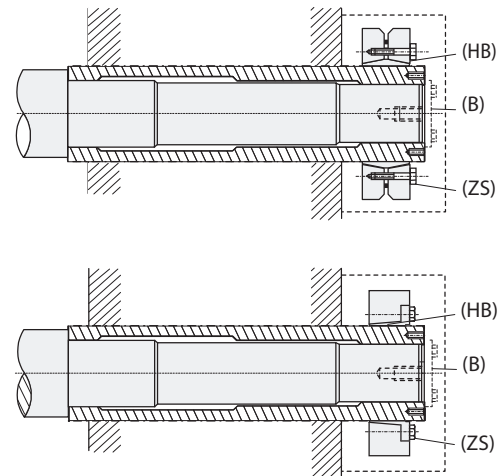

Fig. 11 Full Mounted Position
The shrink disc has a keyless, shrink fit mechanism that shrinks the hub (HB) mechanically through the tightening locking bolt (ZS), and holds shaft and hub as one fixture (Fig. 11).
- (1) Clean and degrease contact surfaces (a) and (c).
- (2) Smear surface (c) and (ZS) with "Molykote 321" or its equivalent. However, keep surface (a) as clean as possible (no grease).
- (3) Slide O-ring (b) onto the shaft. (only 9090 - 9115)
- (4) Mount the reducer on the driven shaft and screw nut (e) until faces (g) and (h) make contact.
- (5) Set the shrink disc (k) at dimensions (LV). Tighten locking bolt (ZS) to specified torque (TA) (using a torque wrench). Make sure that both plates are parallel when tightening bolts. After confirming that the shrink disc is set correctly, tighten the bolts with a wrench of appropriate length. Uniformly, tighten bolts clockwise (not diagonally) while keeping both plates parallel. It is recommended to tighten respective bolts by 30 degree each time.
**Notes: a.** In case of a vertical type unit, mount a thrust washer (B) to prevent the reducer from moving when locking nut (ZS) is loosened (Fig. 11).
**b.** A high-tension bolt (JIS/ISO/ASTM strength 10.9 or 12.9) is used as a locking bolt (ZS). When replacing it, use one specified by the manufacturer.